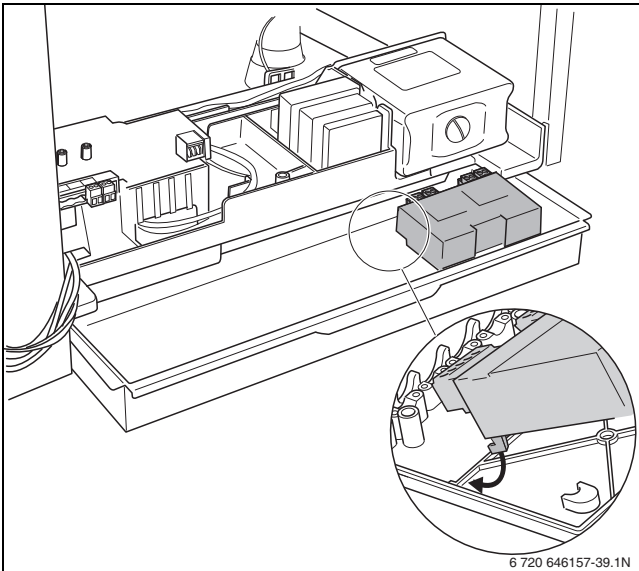

Fig. 42 Clicking the function module into position
- ▶ Click the function module(s) into position in the wall bracket (→ fig. 42).